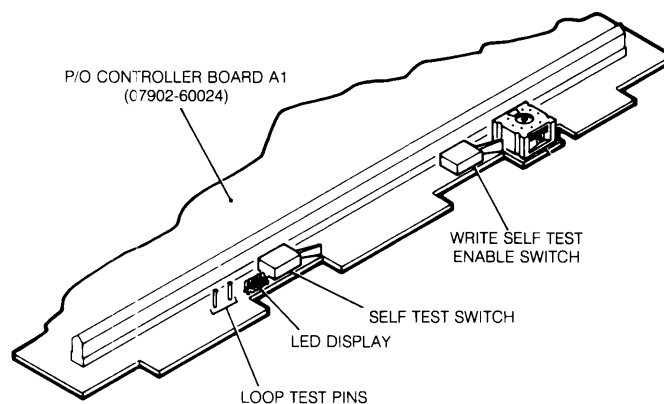

Figure 3-3. Controller Board A1 (07902-60024) Self-Test Controls and Indicators
- **Local, Manually:** The user may execute the self-test by depressing the self-test switch located on the front of the controller board. See Figures 3-3 and 3-4 for the location of the switch and associated controls and indicators.